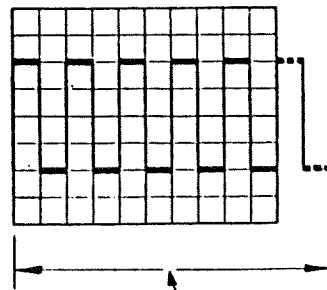

Figure 2-7
- Adjust VR804 to obtain the 6 cycle square wave as shown in Figure 2-7.